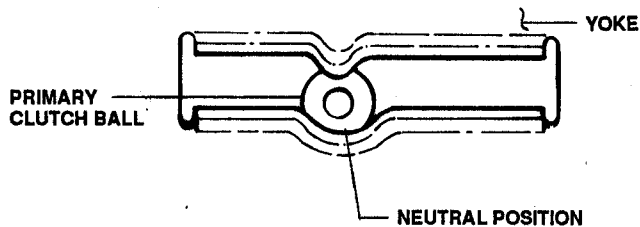

FIGURE 4.4
- Depress Clutch Pedal and move Transmission Shifter until Primary Clutch Ball is in NEUTRAL position in yoke. See Figure 4.4.